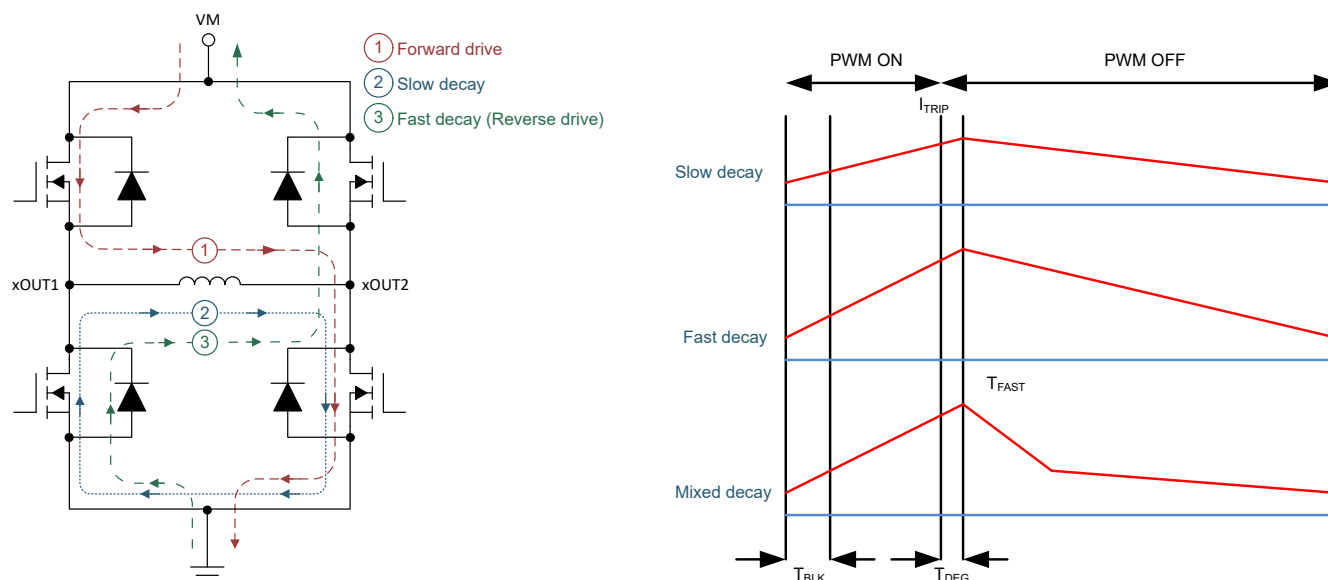

Figure 7-5. Decay Modes
During PWM current chopping, the H-bridge is enabled to drive through the motor winding until the chopping current threshold is reached. This is shown in Figure 7-5, Item 1.
- In fast decay mode, as soon as the PWM chopping current level is reached, the H-bridge reverses state by switching on the opposite arm MOSFETs to allow the winding current to flow in the opposite direction. As the winding current approaches zero, the H-bridge is disabled to prevent further reverse current flow. Fast decay mode is shown in Figure 7-5, item 3.
- In slow decay mode, the winding current is re-circulated by enabling both low-side MOSFETs in the H-bridge. This is shown in Figure 7-5, Item 2.